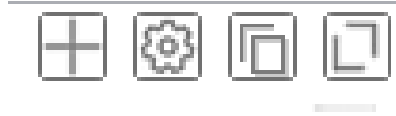

Figure 34: Top Right Hand Corner Symbols
- ✓ Figure 34 shows the top right hand corner symbols.